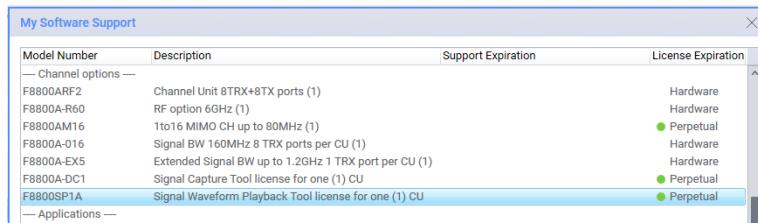

Figure 229 PROPSIM Signal Waveform Playback Tool license
- 1) PROPSIM Signal Waveform Playback Tool license, shows in Help->Technical Support -> My Software Support, as shown in Figure 229.